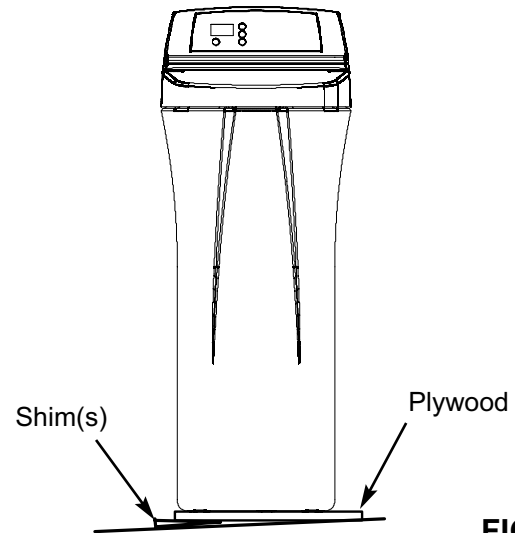

FIG. 11
1. Move the water softener into desired location. Set it on a level surface. If needed, place the water softener on a section of plywood, a minimum of 3/4" thick. Then place shims under the plywood to level the water softener (See Figure 11).